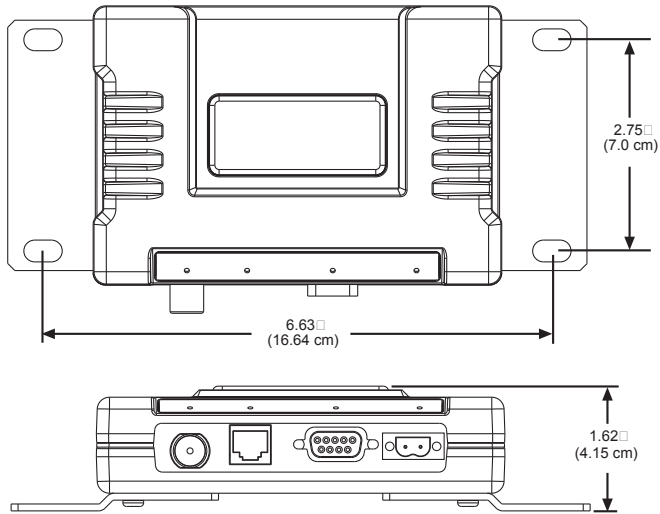

Figure 10. Transceiver Mounting Dimensions
1. Mount the transceiver to a stable surface using the brackets supplied with the radio. (Fasteners/anchors are not supplied.) Figure 10 shows the dimensions of the transceiver case and its mounting brackets. If possible,